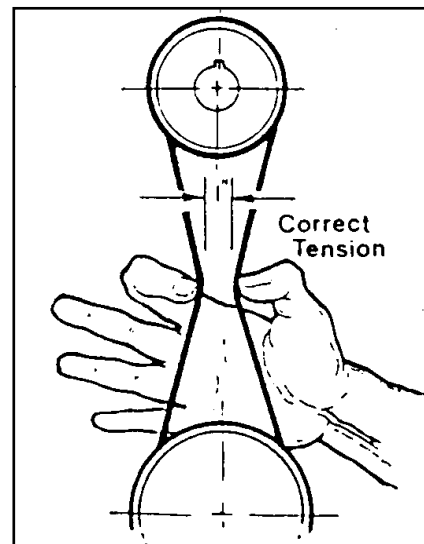

Fig. 30
7. When the belt can be deflected approximately one inch at the center belt span using light finger pressure as shown in Fig. 30
8. Snug tight the four motor mount screws (G).